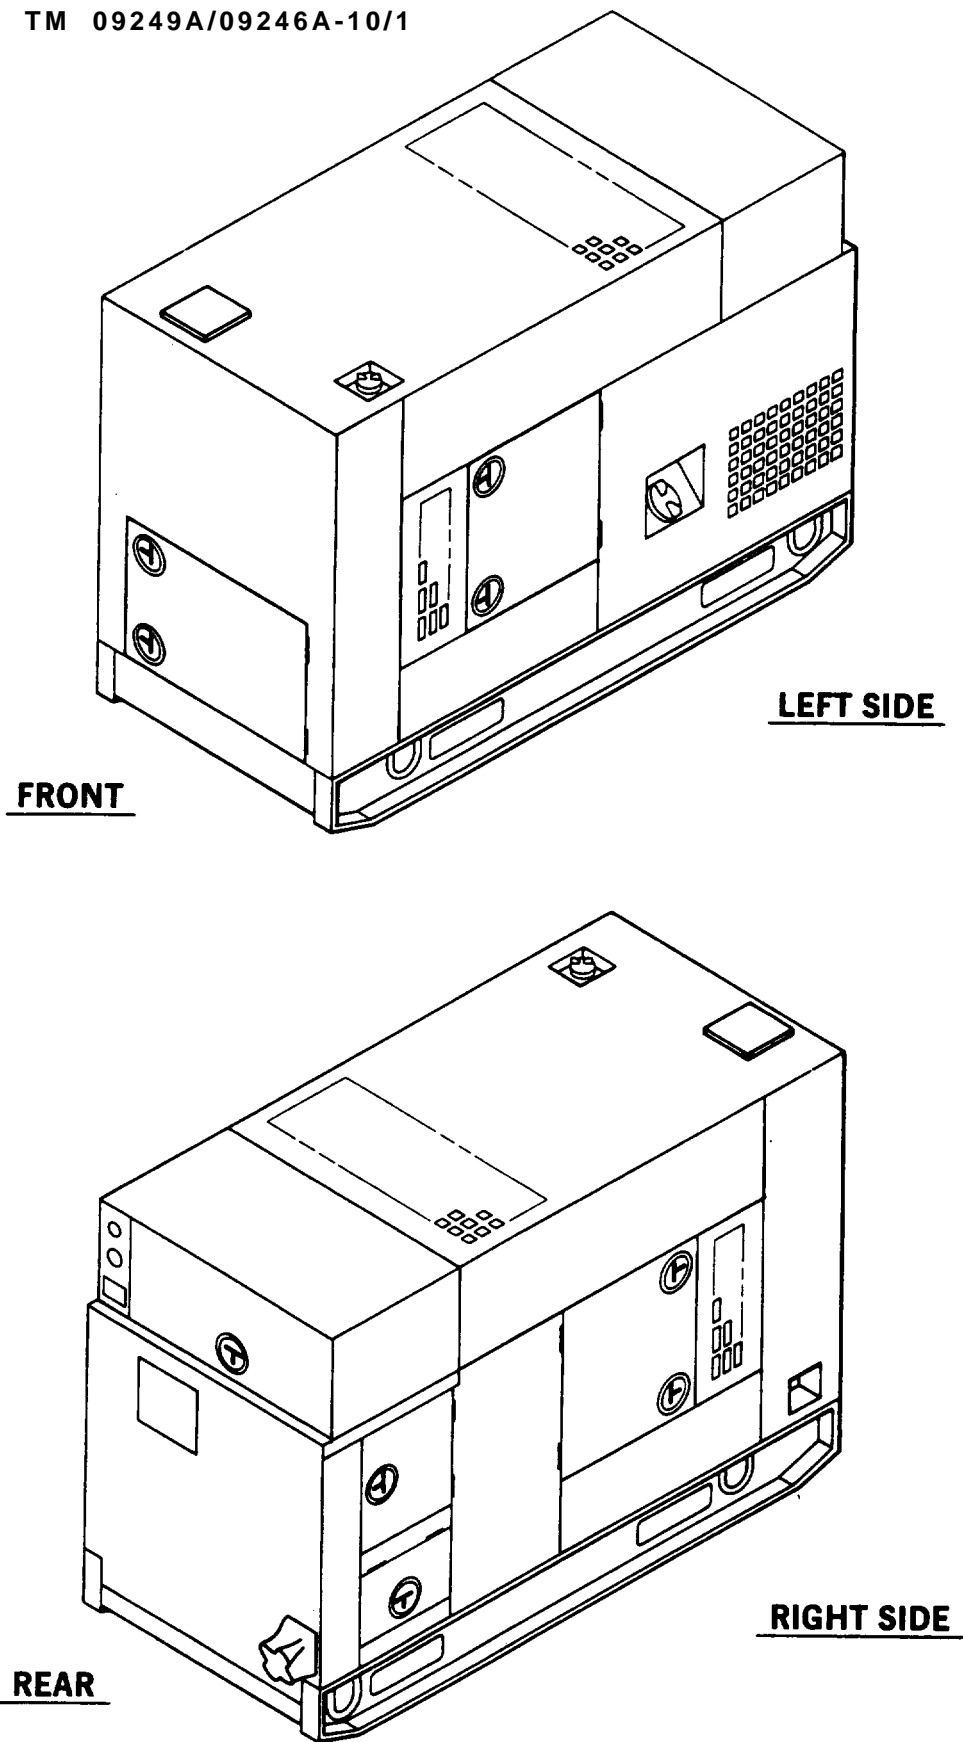

FIGURE 1-1. Generator Set, 30 kW, Tactical Quiet
1-1.1 Type of Manual. This manual contains operation and operator maintenance instructions for the Tactical Quiet (TQ), 30 kW 50/60 and 400 Hz Generator Sets (FIGURE 1-1), herein referred to as generator set. Included are descriptions of major components and their functions in relation to other components.